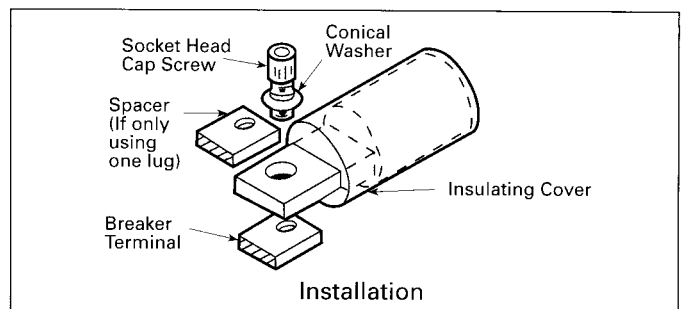

Figure 3
- J. Slip insulating cover over connector tang and then over connector barrel so that only the connector tang is exposed (Figure 3).
- K. Position connector tang on top of the circuit breaker terminal pad and secure with 3/8-16 x 1-1/2" socket head cap screw and conical spring washer. Conical spring washer is to be installed with convex side of washer toward underside of screw head (Figure 3). Torque screw to 228 in-lbs.